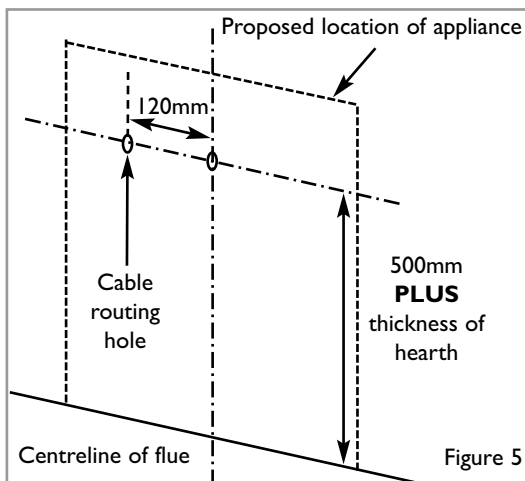

Figure 5
**All models :** Apply the self adhesive sealing strip to the rear perimeter of the firebox frame so as not to be visible. This will eventually seal the firebox to the fireplace back panel. Place the fire to one side whilst the site is prepared for flue installation. As shown in figure 5, mark the vertical centreline of the desired location of the appliance after first checking for clearances to pipes and cables in the wall, and also the terminal position outside.